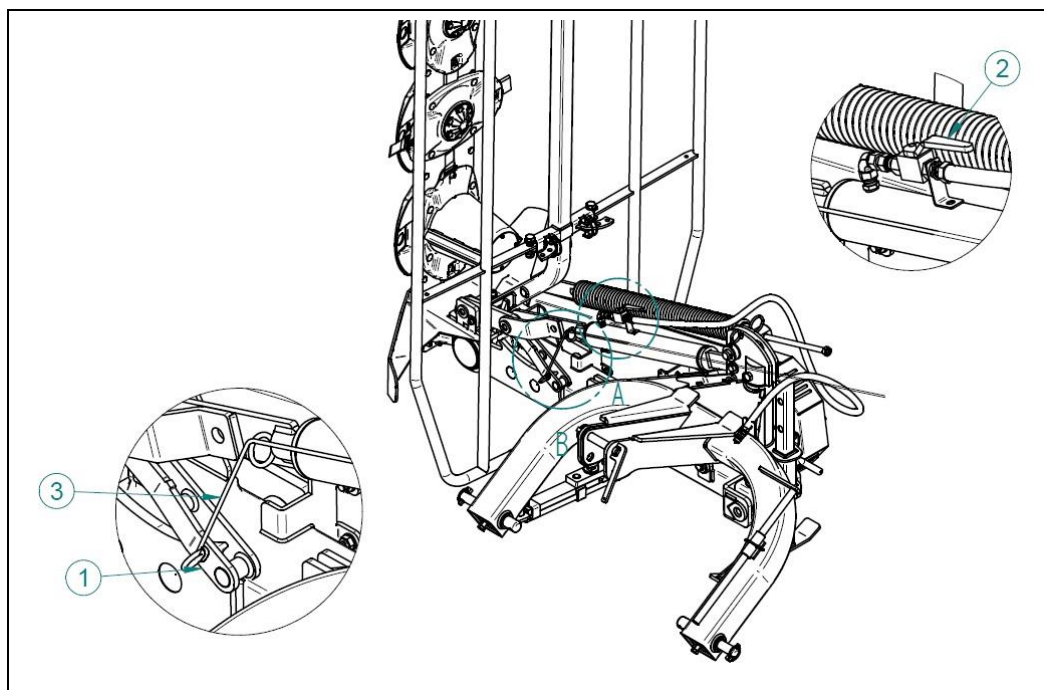

Fig. 11 Folding to transport position
After transporting the machine and positioning the tractor for the mowing, open the valve (2) on the actuator, unlock the supporting frame (1) by pulling by the cord (3) Fig. 11.